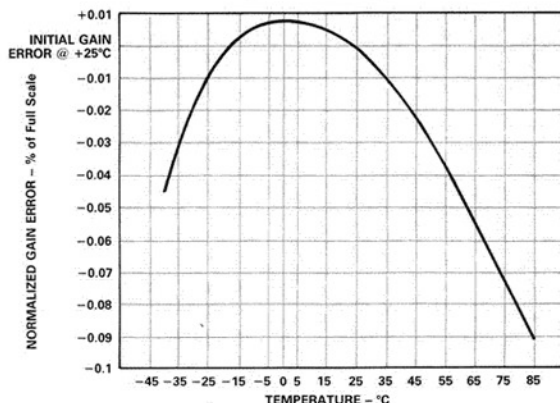

Figure 2. Normalized Gain Error (% of Full Scale) vs. Temperature ( $^{\circ}$ C), with  $V_S = 15$  V pk-pk, 25 kHz Square Wave
1This specification represents the average gain drift over the indicated temperature range. Refer to Figure 2 for an illustration of the typical normalized gain drift for the AD208.
**Gain Drift.** Figure 2 presents the normalized gain drift, from the gain error measured at +25°C, of the AD208 over the -40°C to +85°C rated temperature range.